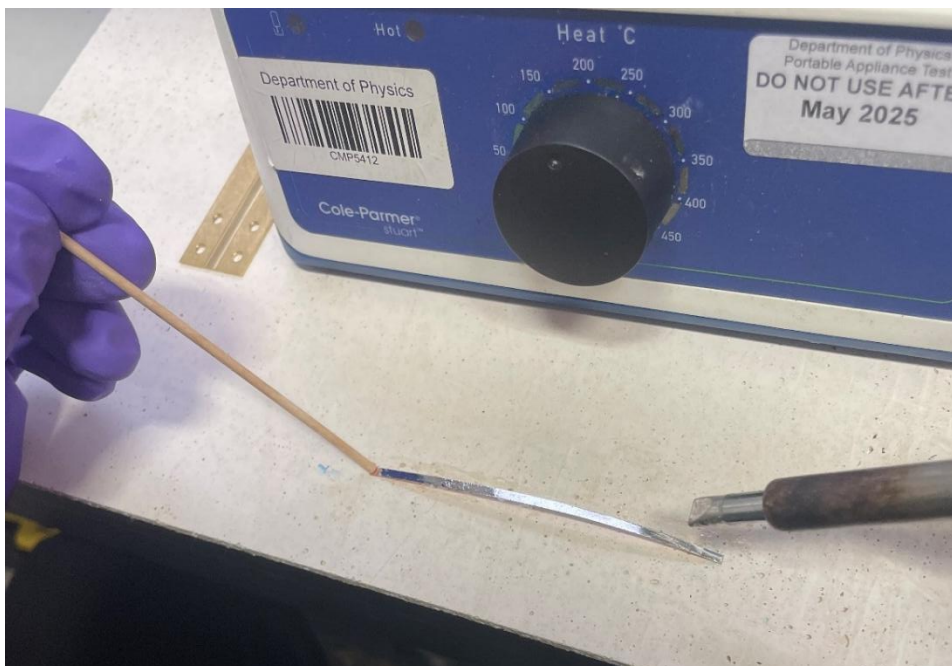

Fig. 3: A well tinned sample.
- d) Hold the soldering iron tip on the sample for a few seconds, until you see the solder start to flow and start to coat the sample. Then sweep the soldering iron SLOWLY along the length of the sample. You should now have a thin shiny silver layer of solder on the sample - see fig. 3. Ensure the whole area of the sample is covered – go back over areas if needed, applying more flux if needed. Don't forget to be careful when handling the sample... it is fragile !